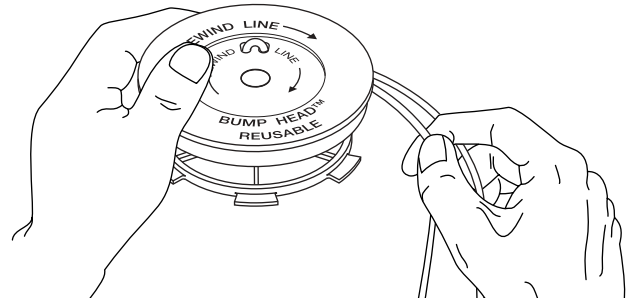

Fig. 17
6. Take approximately 20 feet (6.1 m) of new trimming line, loop it into two equal lengths. Insert each end of the line through one of the two holes in the inner reel (Fig. 17). Pull the line through the inner reel so that the loop is as small as possible.
7. Wind the lines in tight even layers, onto the reel (Fig. 17). Wind the line in the direction indicated on the inner reel. Place your index finger between the two lines to stop the lines from overlapping. Do not overlap the ends of the line. Proceed to step 11.
8. Take approximately 10 feet (3 m) of new trimming line. Insert one end of the line through one of the two holes in the inner reel (Fig. 17). Pull the line through the inner reel until only about 4 inches is left out.